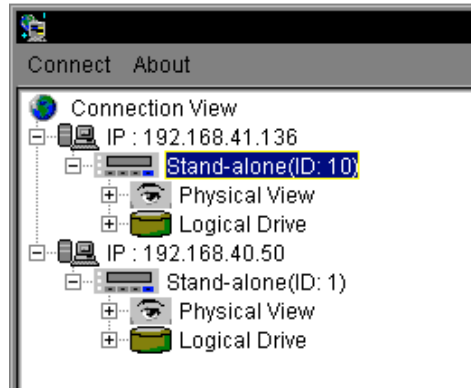

Figure 12-2: Select the IP Address
Step 2. As shown in *Figure 12-2*, select the IP address of the RAID you would like to monitor or manage from the **Connection View** list. Double click the IP address. Double click the controller icon. Double click the connection method (e.g., In-Band SCSI).